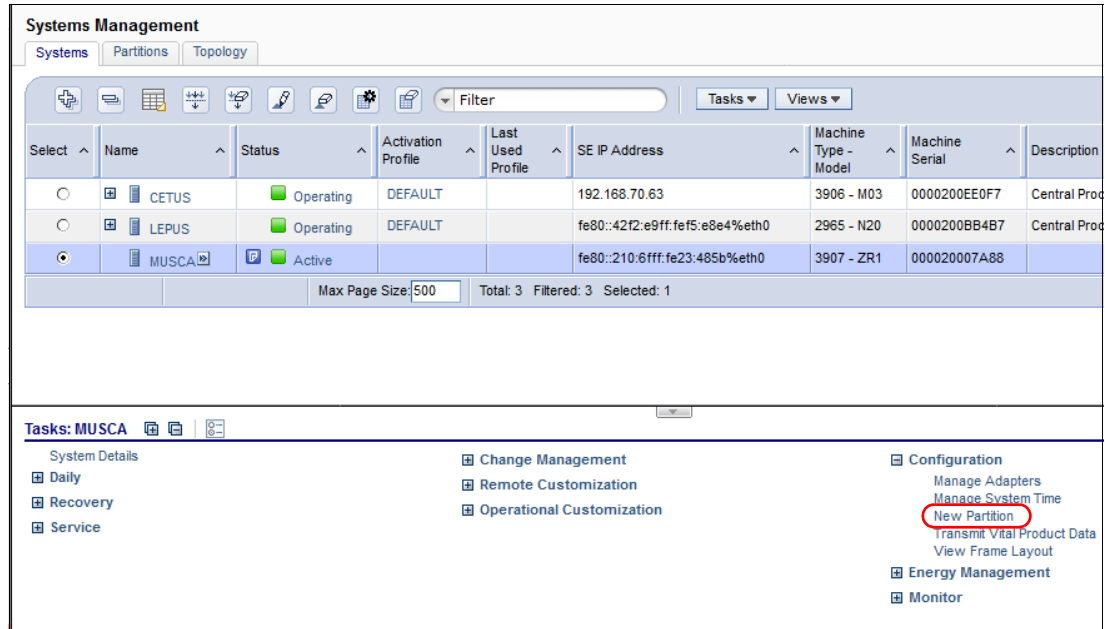

Figure 16-42 New Partition task selection
1. To configure a partition, start with the Systems Management interface on the HMC. Select the CPC to be configured. Then, in the Tasks pane, select **New Partition**, as shown in Figure 16-42.
1. To configure a partition, start with the Systems Management interface on the HMC and select the CPC to be configured. Then, in the Tasks pane, select **New Partition**, as shown in Figure 16-42 on page 415.